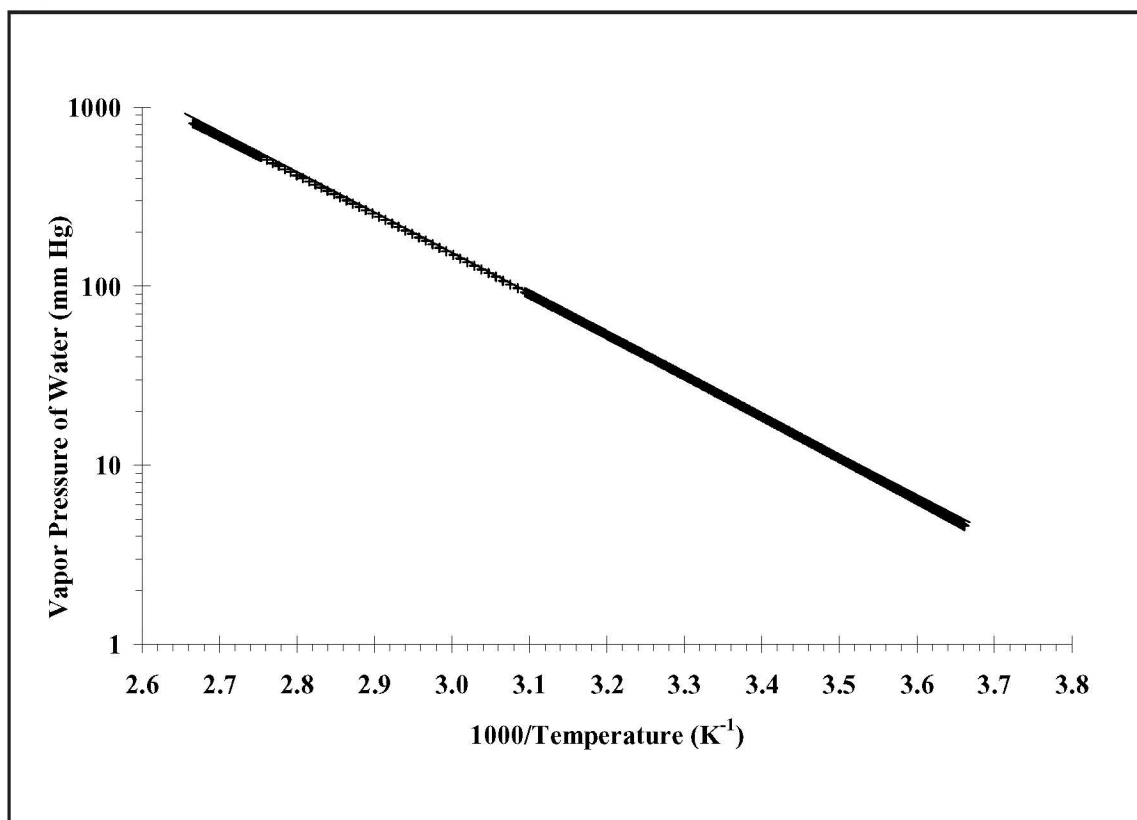

Figure 2. Clausius-Clapeyron plot for water vapor pressures.^[4]
At this point in the course, the students know that they should plot pressure on a logarithmic scale on the y-axis and reciprocal temperature on the x-axis. Students are asked to plot $1000/T$ so that the values on the x-axis are between a more aesthetically pleasing 0 and 10, to estimate the slope ($-B$) and the intercept (A) graphically, to use DataFit to determine A and B , and finally to superimpose the curve fit (the solid line) on top of the experimental points (Figure 2).
of the vapor pressure of water data from 0 to 60 °C, but one can see that there is a systematic deviation from linearity at low temperature and pressure. By graphically extrapolating a straight line through the portion of the data that appears to be linear, one can estimate the slope (-B) as -2200 and the intercept (A) as 109 from Figure 2. Interestingly, there are slight differences in the DataFit estimates of the curve fit parameters, depending on whether the logarithm of the pressure data and the inversion of the temperature data are taken before curve fitting in DataFit or not (Table 3). In the case where the data are not so linearized before entry into DataFit and then a nonlinear model is generated in DataFit, the points at low vapor pressures are de-emphasized relative to the other points.